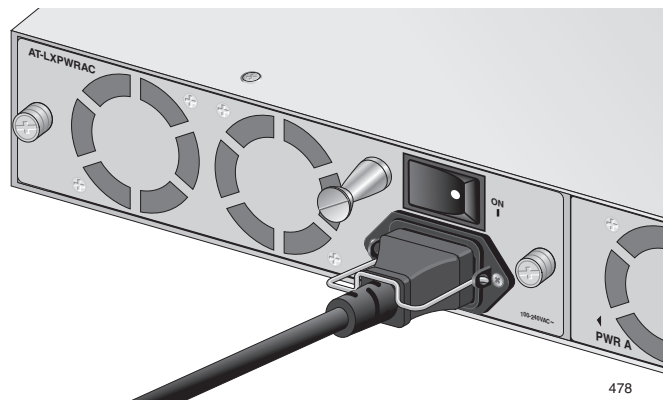

Figure 38. Securing the Power Cord with the Retaining Clip
4. Secure the cord by lowering the power cord retaining clip, as shown in Figure 38.